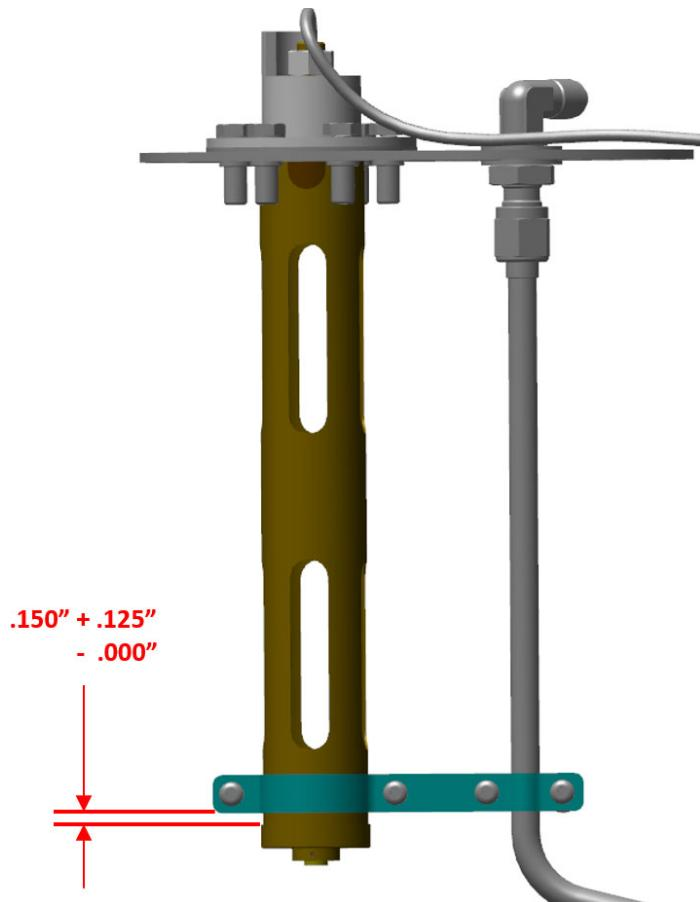

Figure 12 – Clamp bracket position.
- c. Position clamp bracket on fuel level sensor as shown in Figure 12.